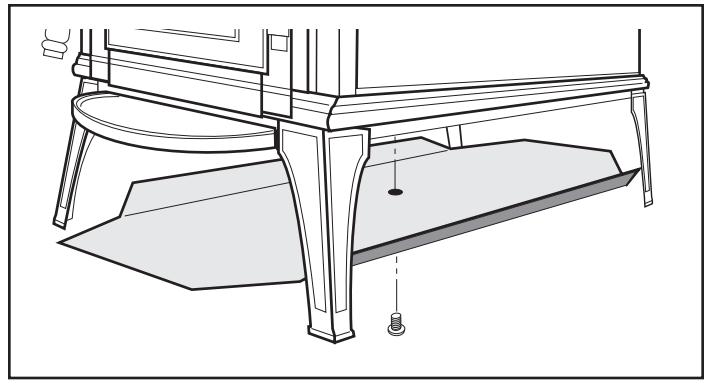

Figure 7.5 - Install the bottom heat shield.
1. Remove the 1/4-20 x 3/8" phillips screw from the central mounting boss in the stove bottom. (Figure 7.5)